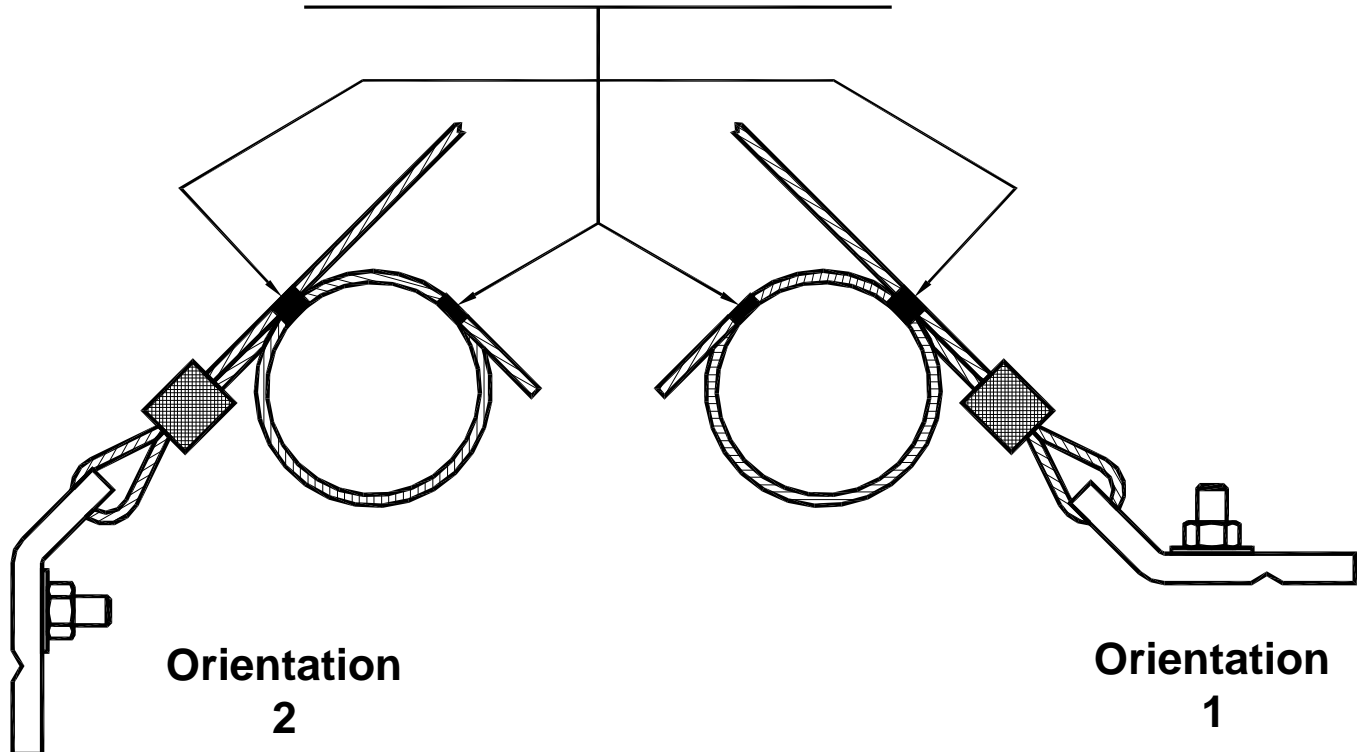

Figure I6-40; Coiling Excess Seismic Restraint Cables for KSCU Cable Kits
5. Excess seismic restraint cable may be coiled and tied off with tape, plastic or metal wire ties, or tie wire in a fashion that is compatible with the installed environment. For corrosive and damp environments use stainless steel wire ties and tie wire. Excess Cable may be coiled as shown in Figures I6-40 and I6-41 for KSCU and KSCC Seismic Restraint Cable Kits respectively.